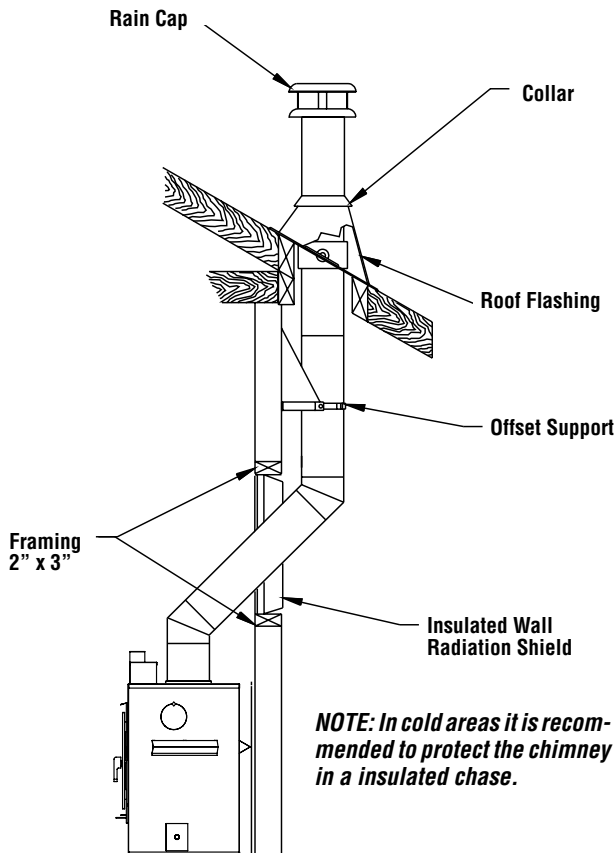

Figure 38
1. Install the first elbow; turn it in the required direction. Fasten it to the chimney with the three (3) 1/2" (12 mm) metal screws provided with the elbow.
2. Install the necessary chimney lengths to achieve the required offset. Lock the chimney lengths together: it is recommended to use three (3) 1/2" (12 mm) screws. If the offset length is made of two (2) chimney lengths or more, use an offset or roof support halfway up the offset. If penetrating a wall, install a wall radiation shield (see **Figures 38 and 39**).
3. Use another elbow to turn the chimney vertically. Secure the elbow, using three (3) 1/2" (12 mm) screws (provided with the elbow).